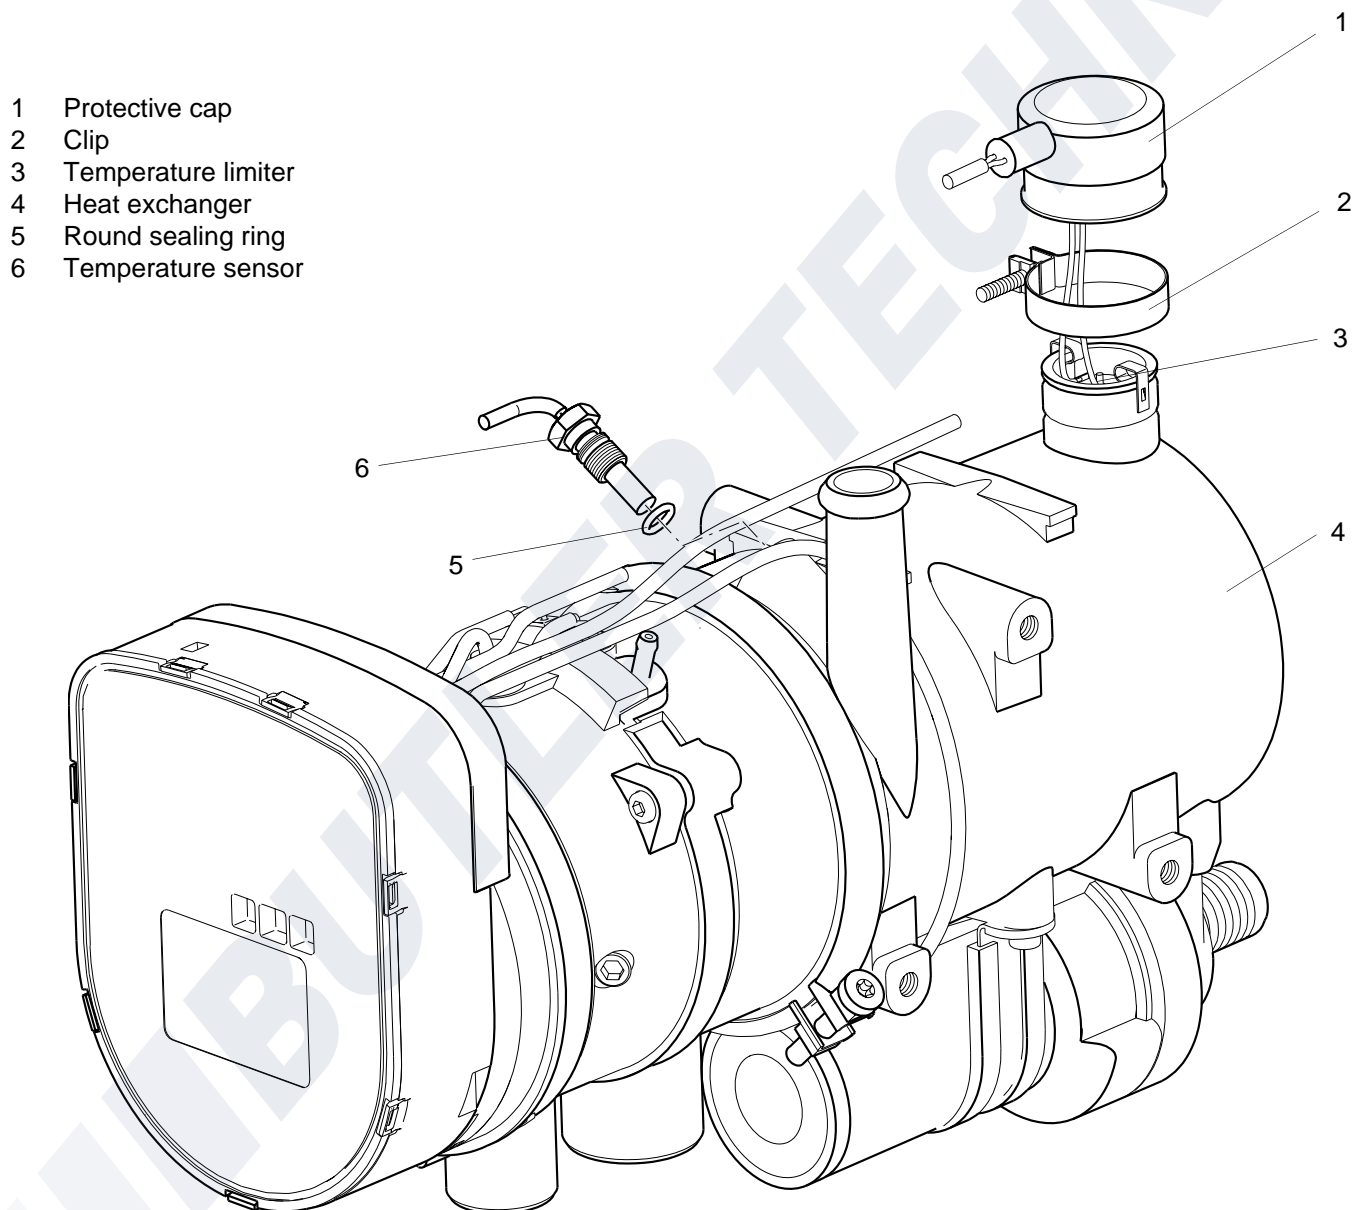

Fig. 903 Changing the temperature limiter and temperature sensor
3. Remove the clip (2, Fig. 903) and pull off the protective cap (1).
4. Use a screwdriver to lever off the retaining spring and remove the temperature limiter (3).
1. Insert the new temperature limiter (3, Fig. 903) into the heat exchanger (4) and press in the retaining spring.
3. Unscrew and remove the temperature sensor (6, Fig. 903) and remove it together with the round sealing ring (5).